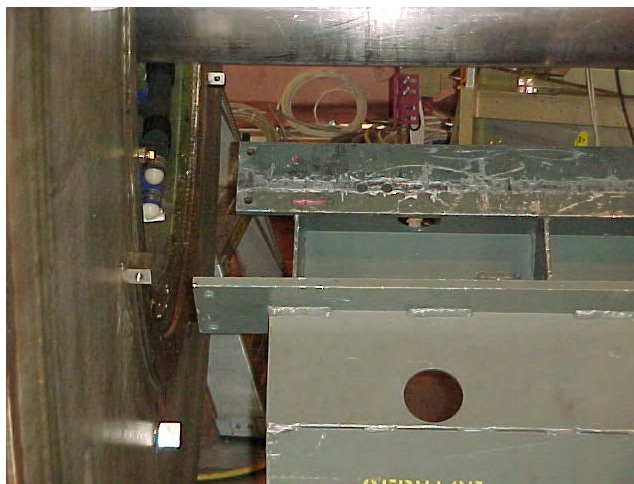

Figure 46 – 2-inch gap between magnet and cart
- B. Maneuver the cart and XRMB coil to the patient-end of the magnet. Position the cart in front of the magnet with a gap of at least 2 inches (50.8 mm) between the cart and the Magnet Interface Ring. The 2-inch gap is required for lower wedges installation. **(FIG 46)**